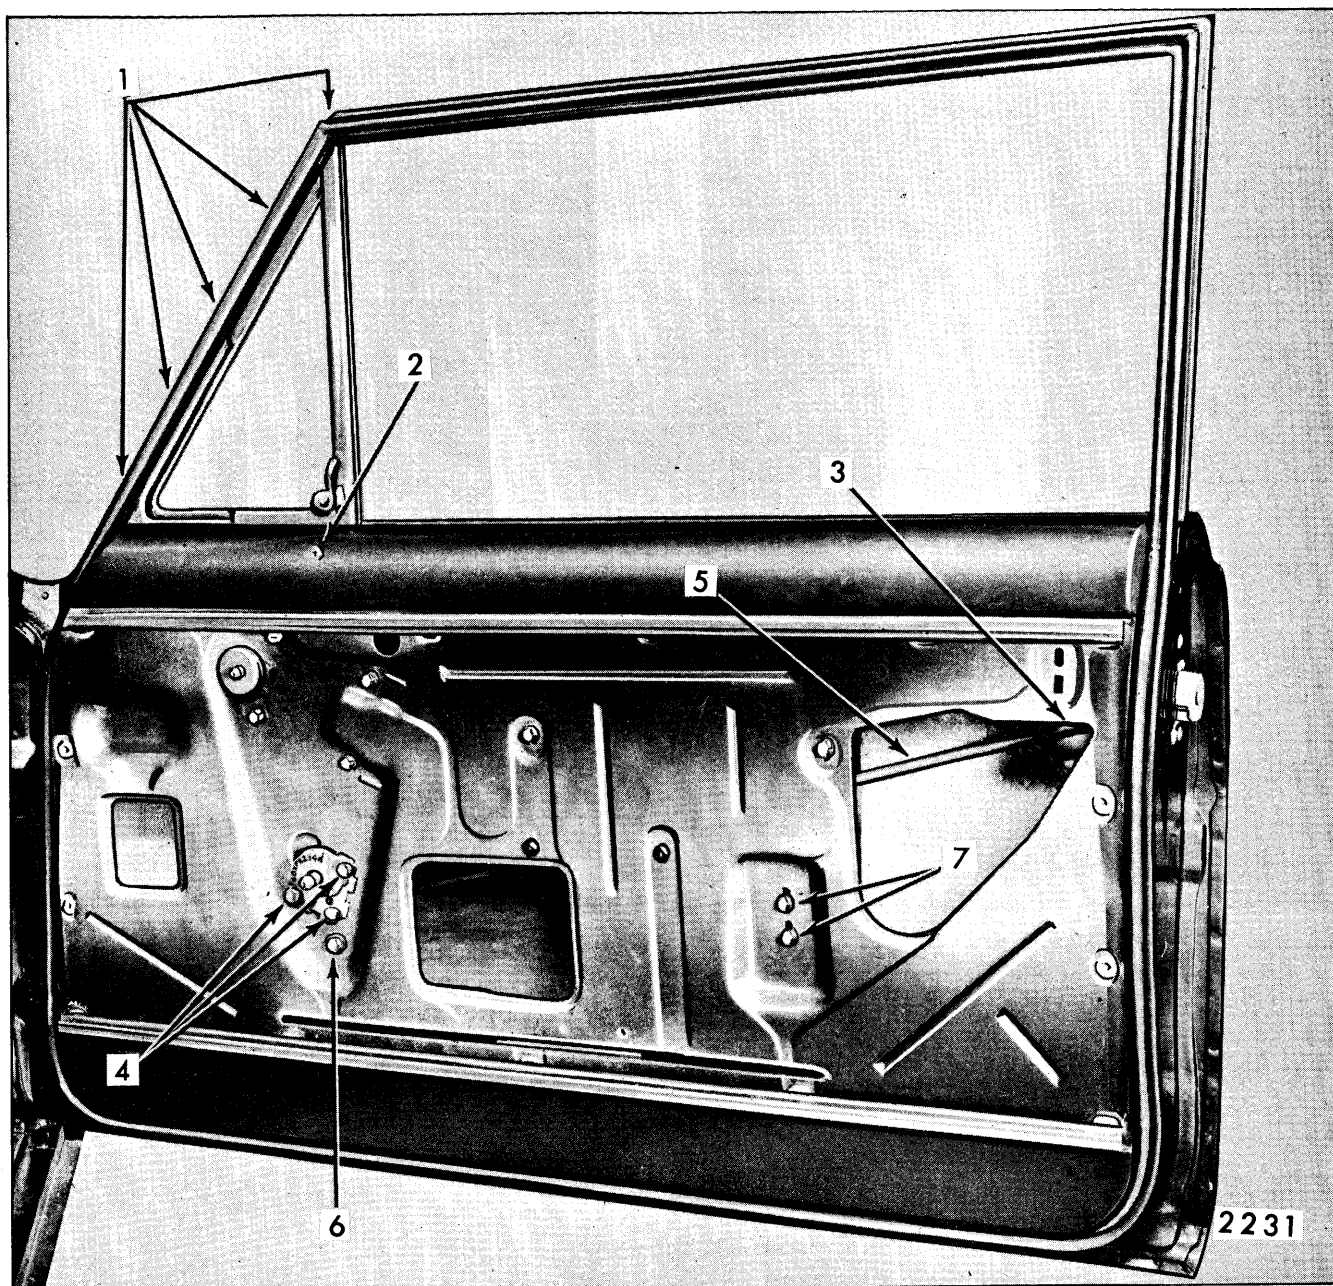

Fig. 7-68—Front Door Hardware Attachment - "X" Styles
6. Remove ventilator to door upper frame attaching screws (see Fig. 7-68 for "X" Bodies and View "A" in Fig. 7-69 for "A" Bodies).